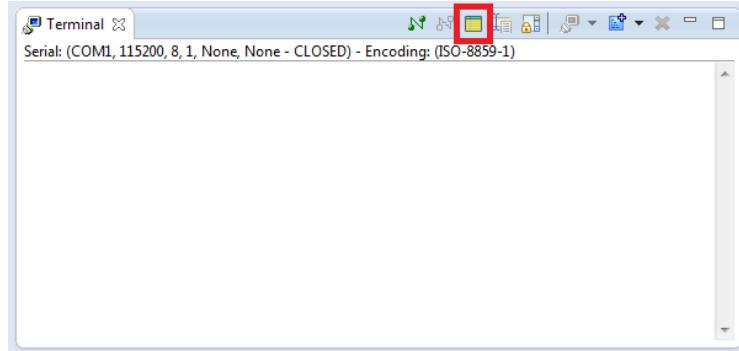

Figure 8-44. ARM DS-5 Serial Terminal
- We will use the built-in serial terminal available in *ARM DS-5*. Go to “Window > Show View > Other... > Terminal > Terminal” to open *ARM DS-5*’s the built-in serial terminal. You should see the terminal shown in Figure 8-44.